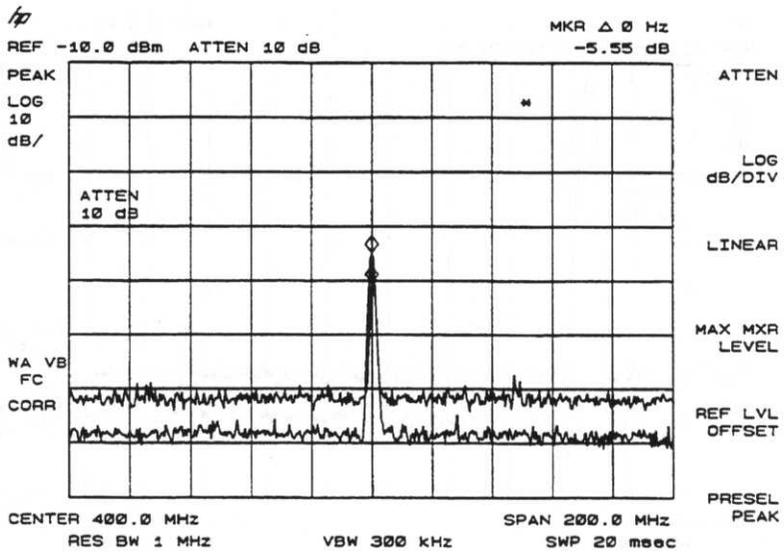
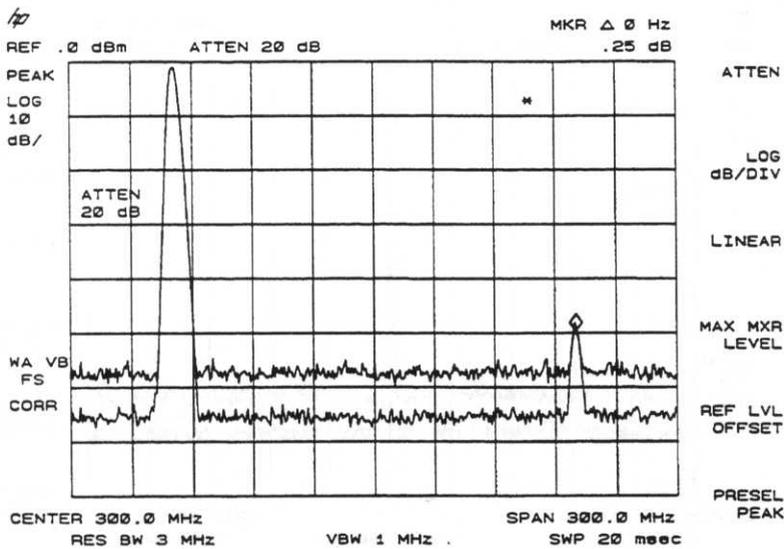

Figure 2-13
Figure 2-14
3. To increase the RF attenuation by 10 dB, press **AMPLITUDE**, [ATTEN], and the up step key once. (See Figure 2-13.)
If the responses in trace A and trace B differ, as in Figure 2-13, attenuation is required. If the distortion was not caused internally, there would be no change in the signal level. (See Figure 2-14.)